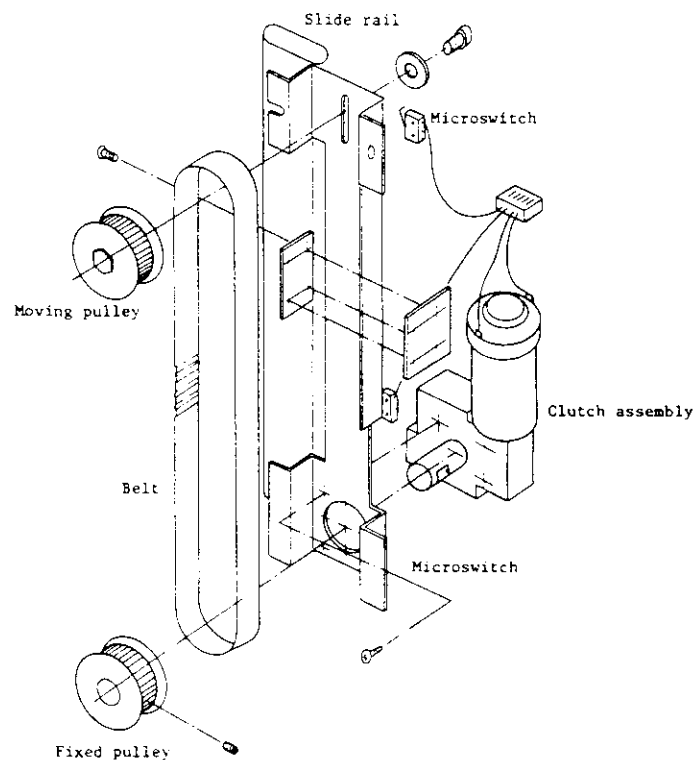

Figure L.34 Clutch assembly
- (1) Loosen the hex socket screw on the moving pulley shown in Figure L.34 to decrease belt tension.
- (2) Remove the belt from the fixed pulley. Loosen the hex screw and remove the fixed pulley.
- (3) Remove four microswitch screws.
- (4) Remove cable clamping screws.
- (5) Remove four clutch assembly screws and the clutch assembly.
- (6) When replacing the belt, first remove four screws from the slide rail mounting plate and remove the mounting plate. Remove and replace the belt.